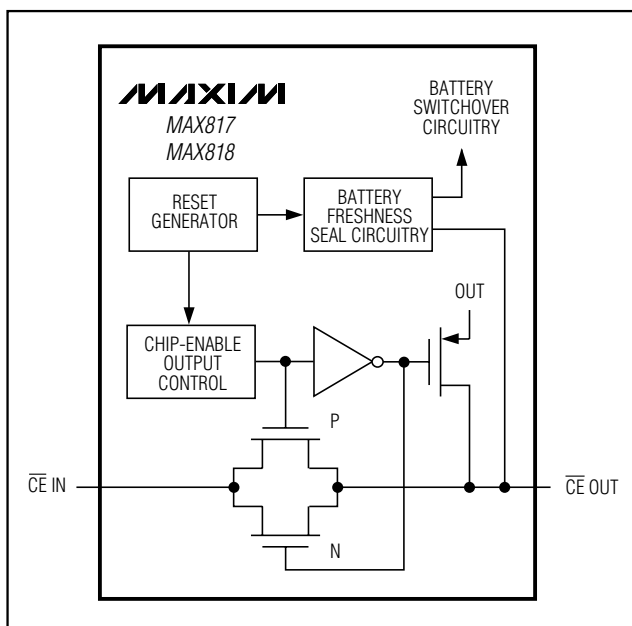

Figure 5. Chip-Enable Transmission Gate
Internal gating of the chip-enable (CE) signal prevents erroneous data from corrupting CMOS RAM in the event of an undervoltage condition. The MAX818 uses a series transmission gate from \overline{CE} IN to \overline{CE} OUT (Figure 5). During normal operation (reset not asserted), the CE transmission gate is enabled and passes all CE transitions. When reset is asserted, this path becomes disabled, preventing erroneous data from corrupting the CMOS RAM. The short CE propagation delay from \overline{CE} IN to \overline{CE} OUT enables the MAX818 to be used with most μP s. If \overline{CE} IN is low when reset asserts, \overline{CE} OUT remains low for typically 15 μs to permit the current write cycle to complete.
When the CE transmission gate is enabled, the impedance of $\overline{\text{CE}}$ OUT is equivalent to a 40Ω resistor in series with the source driving $\overline{\text{CE}}$ IN. In the disabled mode, the transmission gate is off and an active pull-up connects $\overline{\text{CE}}$ OUT to OUT (Figure 5). This pull-up turns off when the transmission gate is enabled.